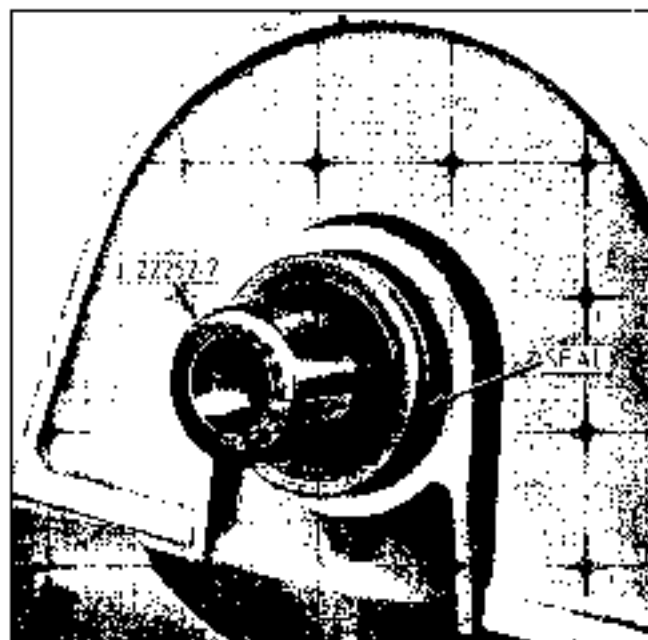

Fig. 6-14. Installing Camshaft Seal
3. Position camshaft seal on pilot J 22262-2 (Fig. 6-14).
4. Drive seal into position using J 22262-1 seal installer (Fig. 6-14).